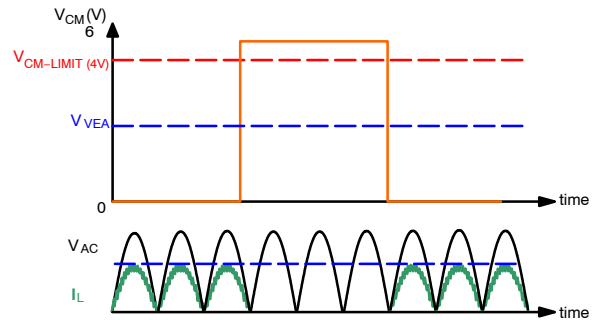
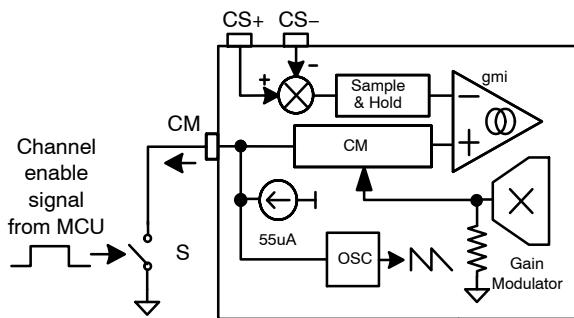

Figure 15. Channel Management by MCU
Figure 14. Channel Management by MCU
Channel Management (CM) function can also be accessed by an MCU through the connection shown in Figure 14. CM pins have internal pull-up current source. If $V_{CM} > 4$ V, the channel is disabled. To enable the channel, make $V_{CM} = 0$ V, as shown in Figure 15.